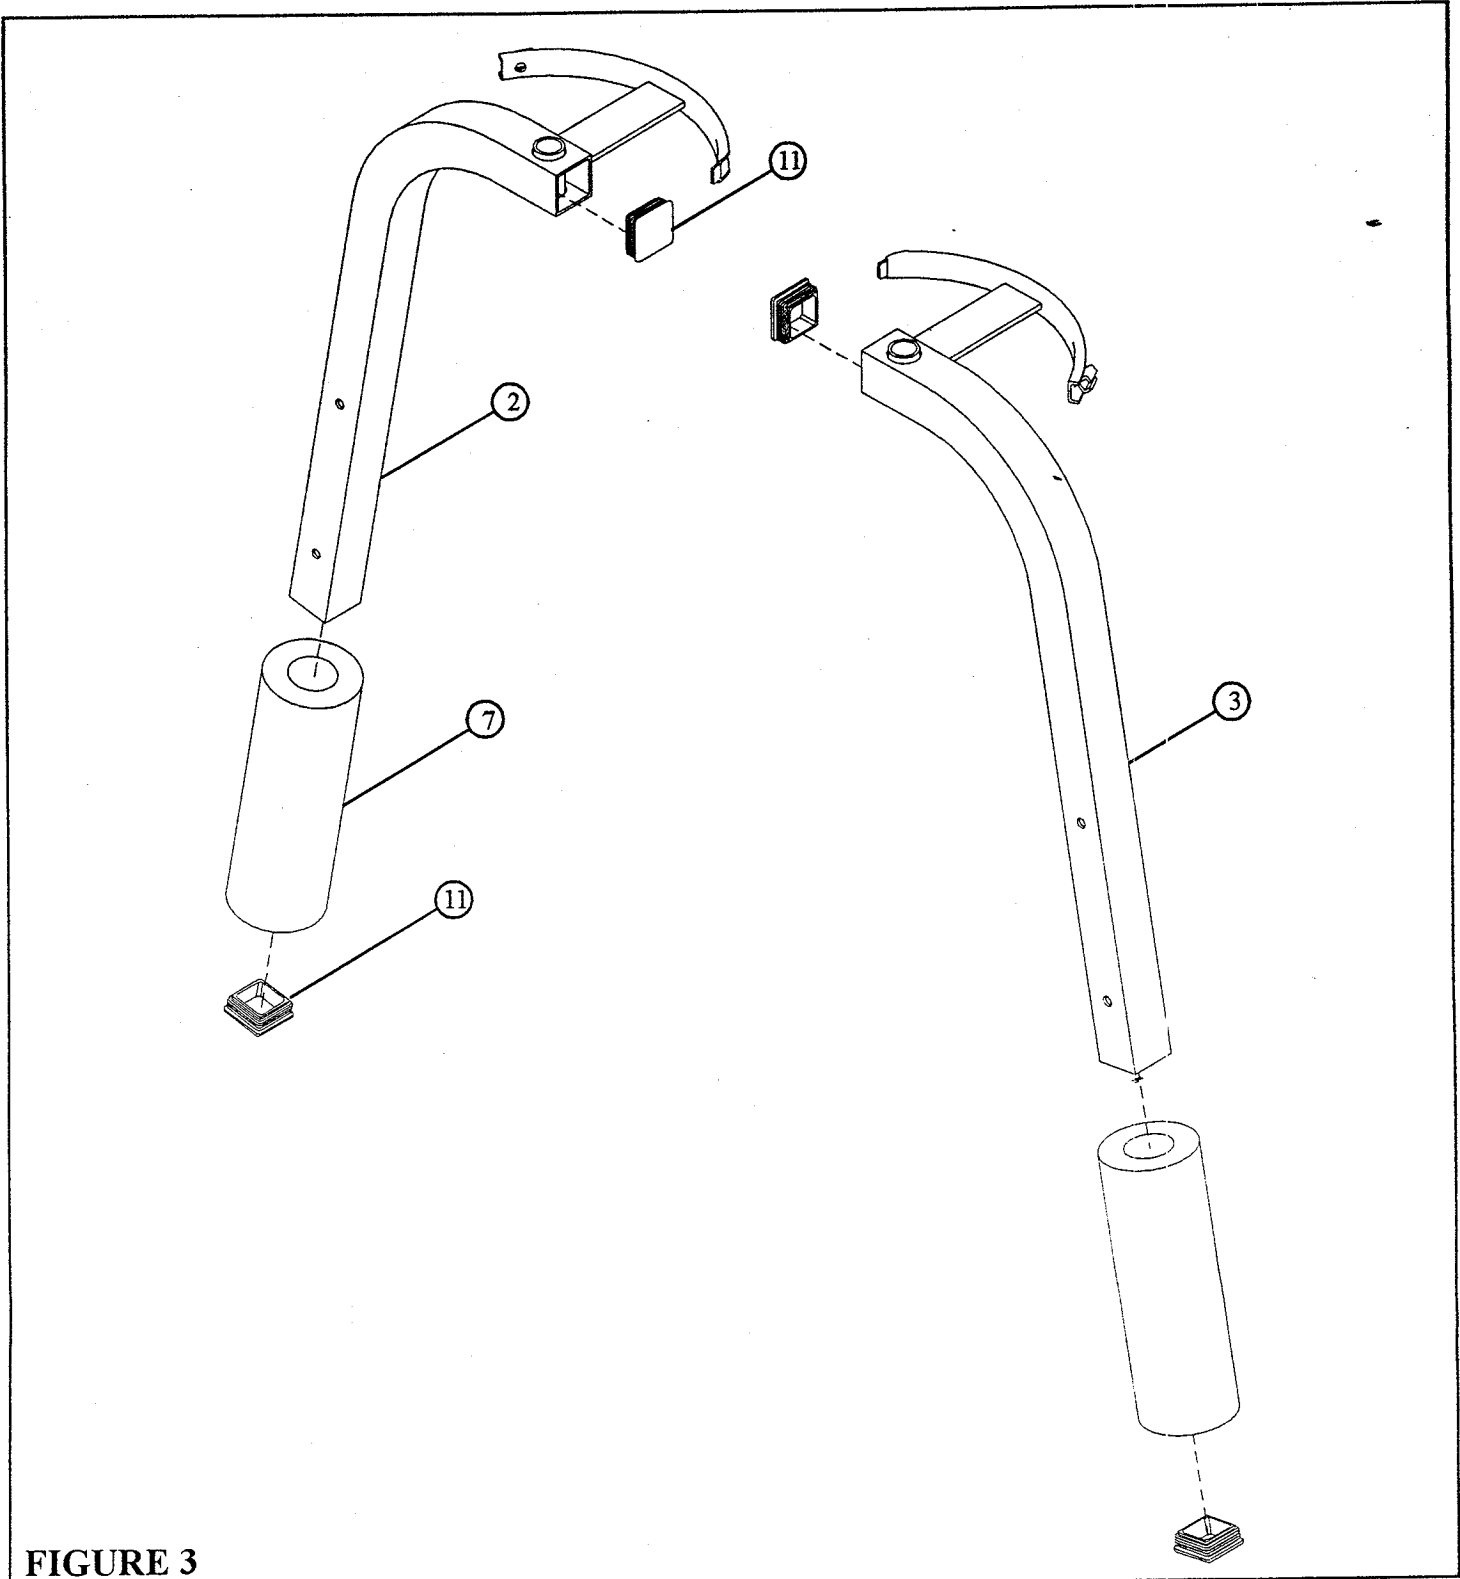

**FIGURE 2**
- Assemble two 1 X 1" GLIDES (12) to the BEARING HOUSING (1) as shown in FIGURE 2.
- Insert two 2" SQ. END CAPS (11) to the ends of the BEARING HOUSING (1) as shown in FIGURE 2.